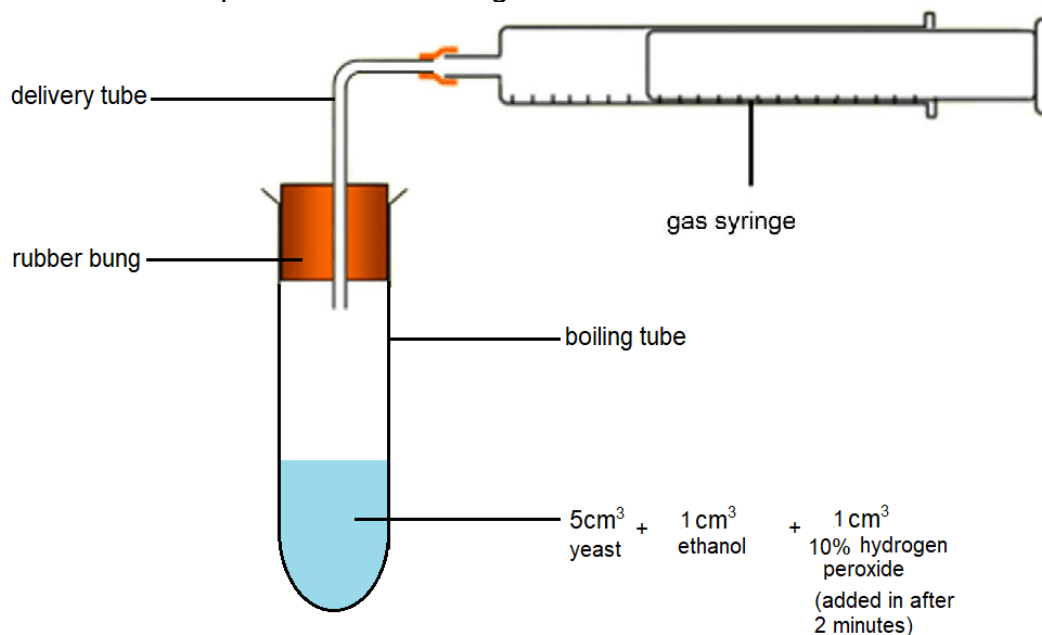

Fig 5
The experimental set-up can be seen in Fig 5 below.
- (f) (iii) Some variables that needed to be standardised in this investigation can be seen in Fig 5.